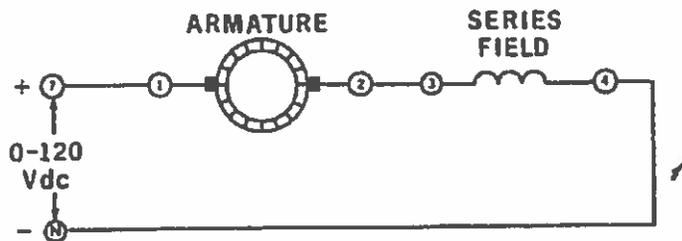
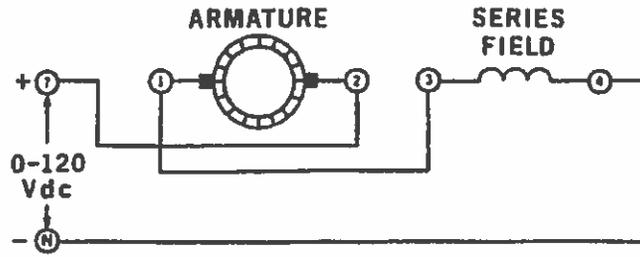

Figure 12-2.
Figure 12-3.
5. Using your Power Supply, DC Voltmeter/Ammeter and DC Motor/Generator, connect the circuit shown in Figure 12-2. Notice that the armature is connected in series with the series field winding, across the input voltage.
9. Reconnect your circuit as shown in Figure 12-3. (The only change made to the circuit of Figure 12-2 is that the connections to the armature have been reversed).
10. Repeat procedures 6 through 8 (using the reversed armature connections shown in Figure 12-3).